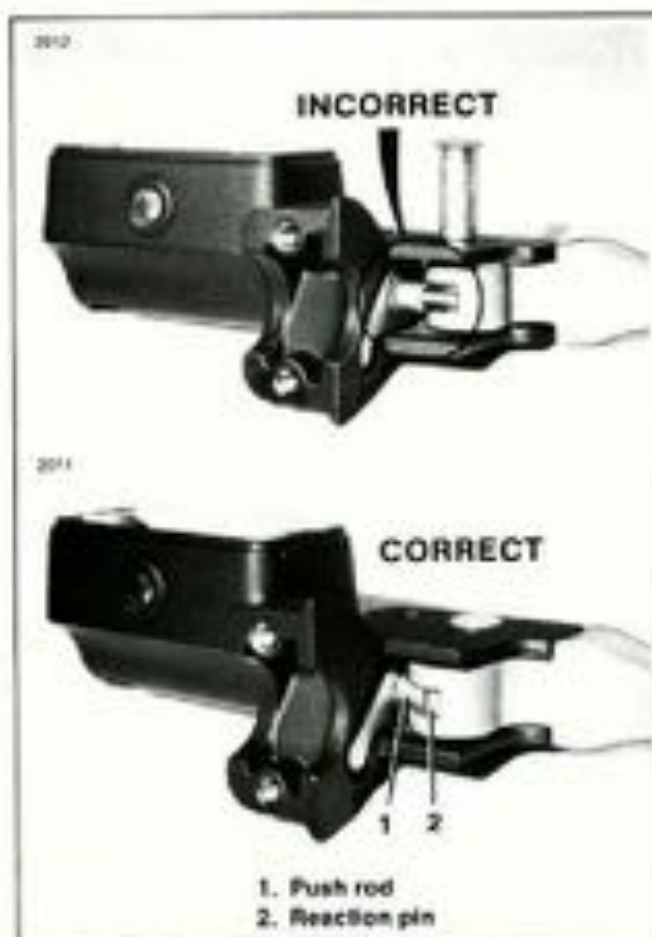

Figure 2-49. Hand Lever Assembly
See Figure 2-49. Ensure that push rod and switch activator (1) is inserted into hole in reaction pin (2). There must not be any binding of the hand lever when depressed. If hand lever does bind, push rod and switch assembly is hitting the inside master cylinder casting wall.